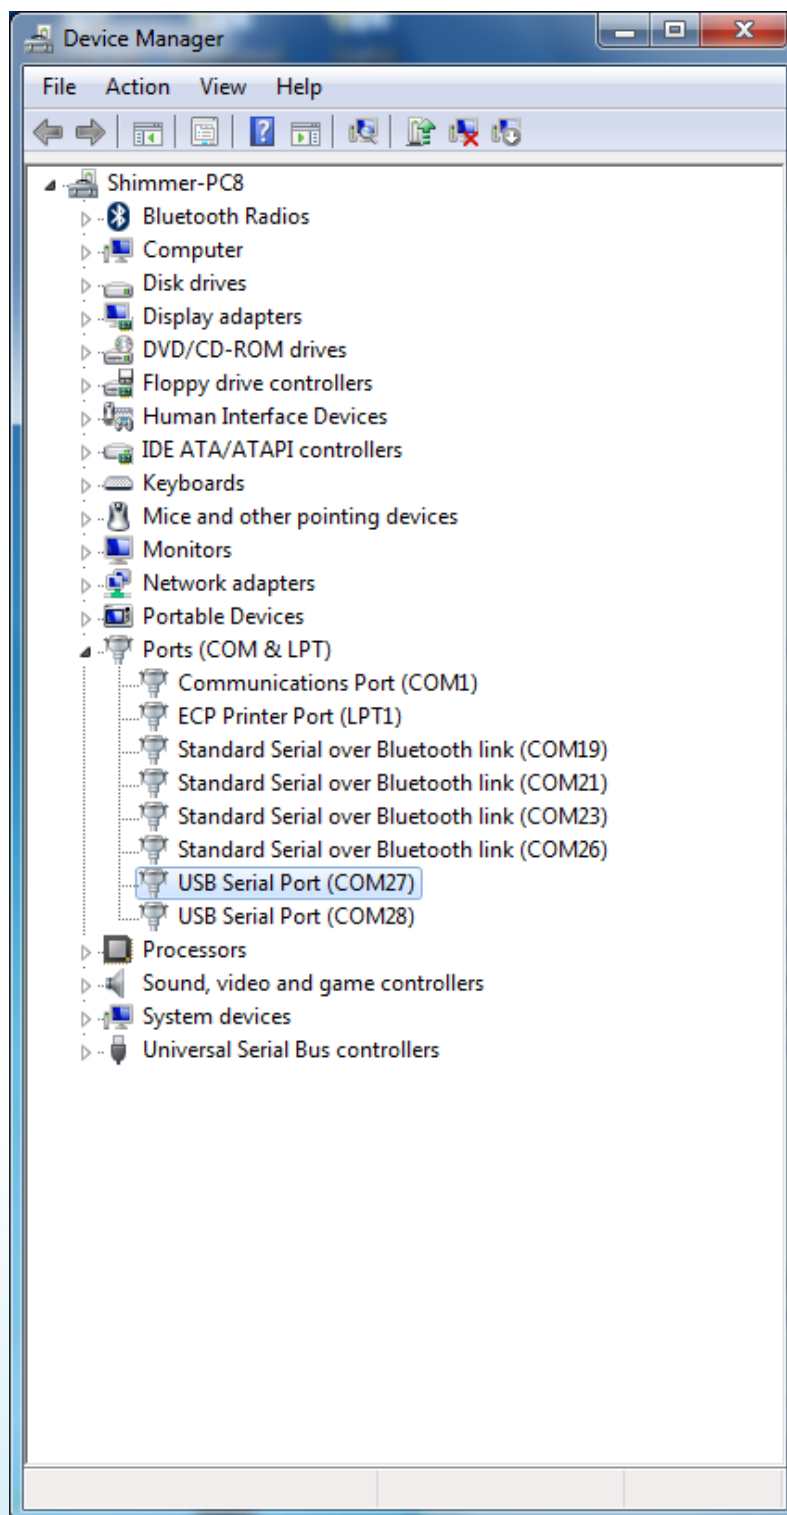

Figure 1-6 Device Manager showing Dock USB Serial Ports
- IV. Next, under the *Ports (COM & LPT)* entry in the *Device Manager*, you should see two new *USB Serial Port* entries, each with an associated COM port number, as shown in Figure 1-6.